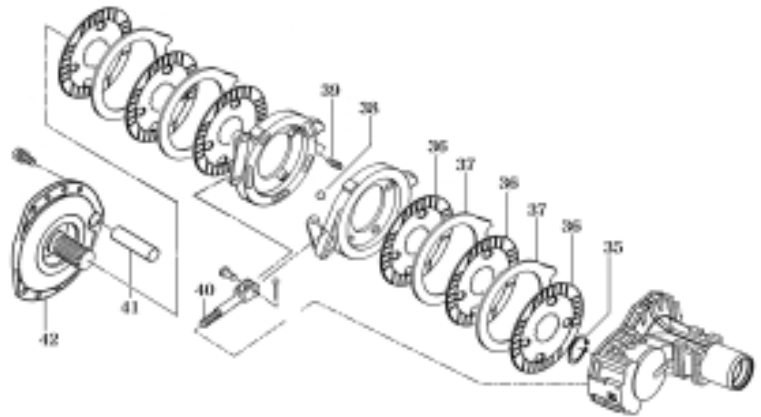

Fig.7-6
- 6) Remove the brake metal tightening bolts and remove brake metal(42) with wheel pinion and the disc brake assembly on it
- 7) Remove the snap ring(35) of wheel pinion(10) (Fig.7-6) And individually separate the friction plates, actuator and separator plates from each other.